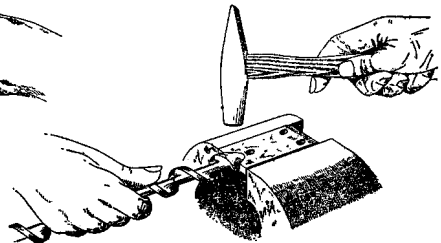

FIGURE 7.
- (2) *Restoring Bent Spur*—If the spur of a bit has been bent, it should be straightened with a light hammer such as a riveting hammer as shown in Figure 7. If after straightening the spur the cutting edge appears to be jagged or rolled, the outside surface near the cutting edge may be “touched up” with a file.